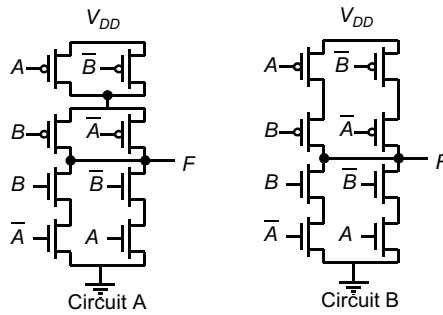

Figure 6.3 Two logic functions.
6. [E, None, 4.2] What is the logic function of circuits A and B in Figure 6.3? Which one is a dual network and which one is not? Is the nondual network still a valid static logic gate? Explain. List any advantages of one configuration over the other.